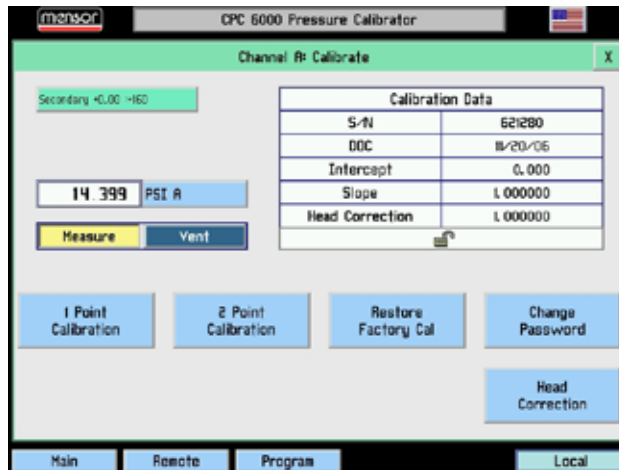
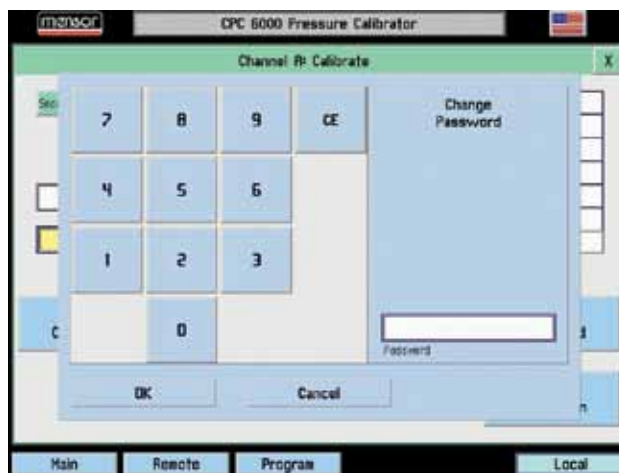

Figure 10.6.1C - Calibration Data Screen (unlocked)
Figure 10.6.1D - “Change Password” Window
4. The Calibration Data screen of Figure 10.6.1C is displayed. Use this screen to change the password to perform functions for 1 point calibration, 2 point calibration, restore factory cal, and head correction. Touch [Change Password] and the Change Password window appears as in Figure 10.6.1D.
8. Confirm that the new password is valid by pressing [Main], then repeat steps 1 through 3 to return to the Calibration Data screen (Figure 10.6.1C). If this screen can't be accessed using either the old or the new password contact Mensor.
The offset and slope values established for each turndown at the final factory calibration are stored in permanent memory within each transducer. These factory values can be restored at any time regardless of the number of subsequent calibrations. To restore the factory calibration to the active turndown, press [Restore Factory Cal] on the unlocked Data Entry screen seen in Figure 10.6.1C. This will restore both the factory zero offset and slope calibration values to the active turndown. The [Restore Factory Cal] function can be repeated for each turndown as desired.